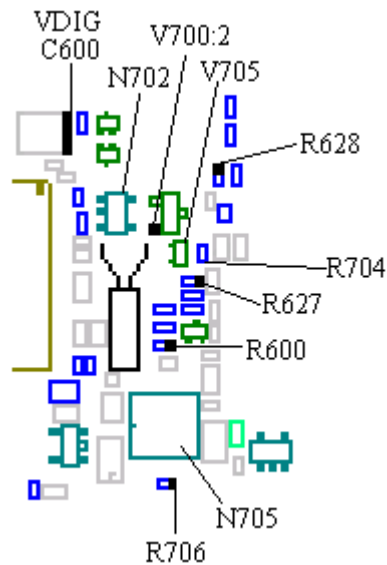

Fig. 6.4
Give the board power and start it up. Measure the input voltage at N705 pin 2 (~3.1V, fig. 6.4).
- If the input voltage is too low or missing, check the VDIG (~3.2V) feed voltage at C600 (fig. 6.4).
- * If the resistance is more than 500 ohms, replace N702 (class A, fig. 6.4).
- * If the VDIG voltage is correct, measure the resistance of R706 (class A, ~4.7 ohms, fig. 6.4).
- If the input voltage is correct, measure the output voltage (VSIMPAD, ~5V) at N705 pin 3 (class A, fig. 6.4).
Measure the resistance of R704 (class A, ~100 kohms, fig. 6.4).
Measure the resistances of R600 (~33 ohms), R627 (~0 ohms) and R628 (~100 ohms, all of class A and in fig. 6.4).